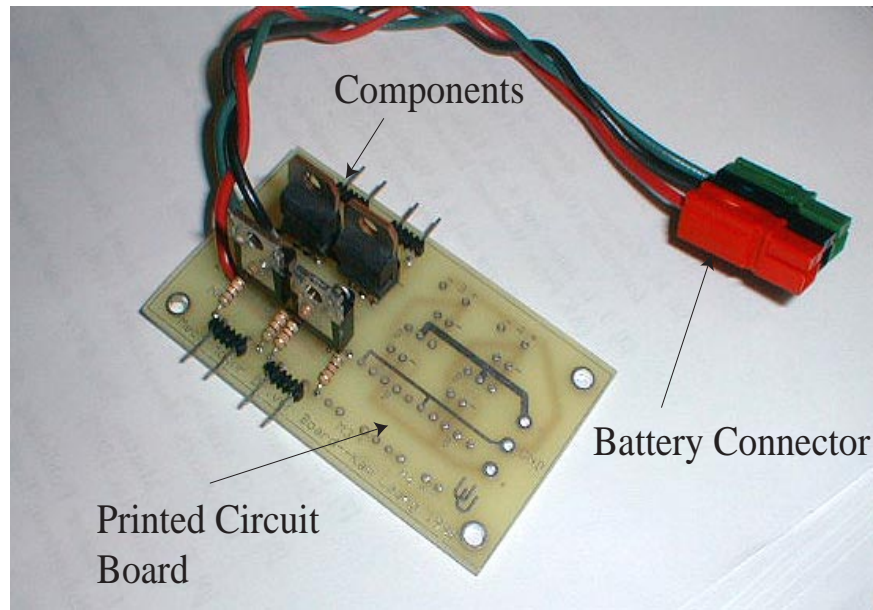

Figure 2: The push-pull motor driver circuit board assembled with battery power leads.
The motor driver circuit was designed to (a) provide current to drive larger DC motors and (b) to isolate the Handy Board Microcontroller from potential damage caused by over current draw. To make life easier, a printed circuit board containing trace patterns for four driver circuits shown in Figure 2 was designed and manufactured for the mechatronics projects. Each team gets one printed circuit board along with enough components to construct two motor driver circuits. The assembly instructions are presented below in Section 3.
6. Once all of the components have been properly soldered to the board, solder power wires to the appropriate holes. The standard colors for the power should be red (+), black (-), and green (*GND*). Solder to the end of these wires the appropriate battery power connectors (red, black, green, see Figure 2).